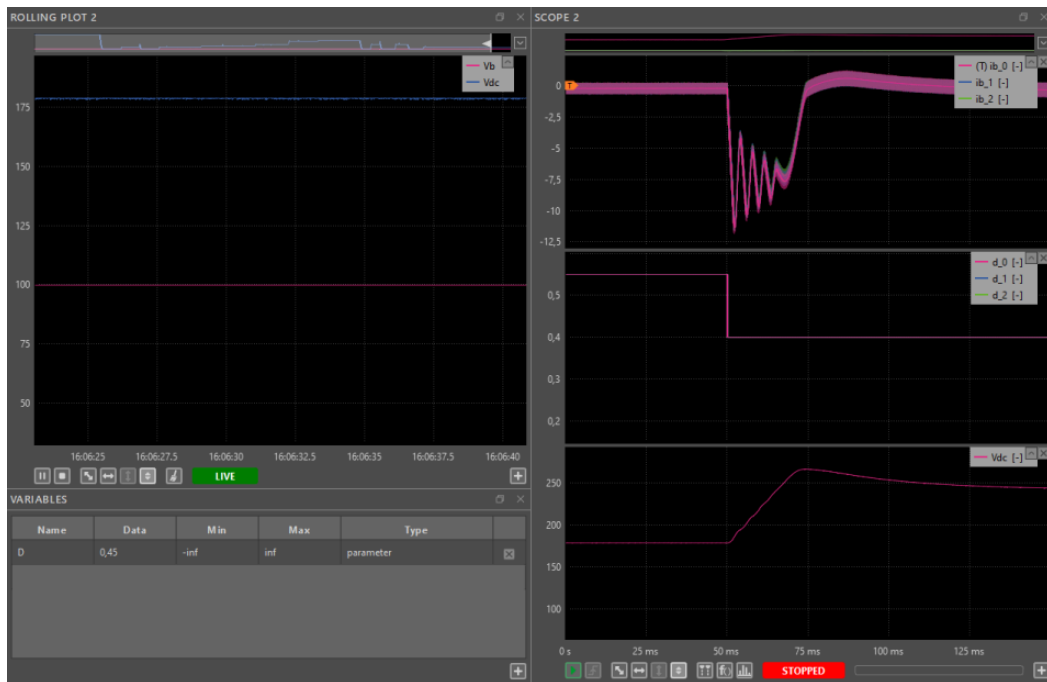

Figure 6. Results obtained after applying steps in the modulation index.
7. Generate steps in the duty cycle by using the transient generator located in the right-hand panel. At $t=50\text{ms}$, D is modified from 0.45 to 0.6. This step will result in a higher DC bus voltage. In addition, as the required power increases during the transient and V_b keeps constant, the current through each leg of the interleaved boost will also increase. The obtained results can be observed in Fig. 6.